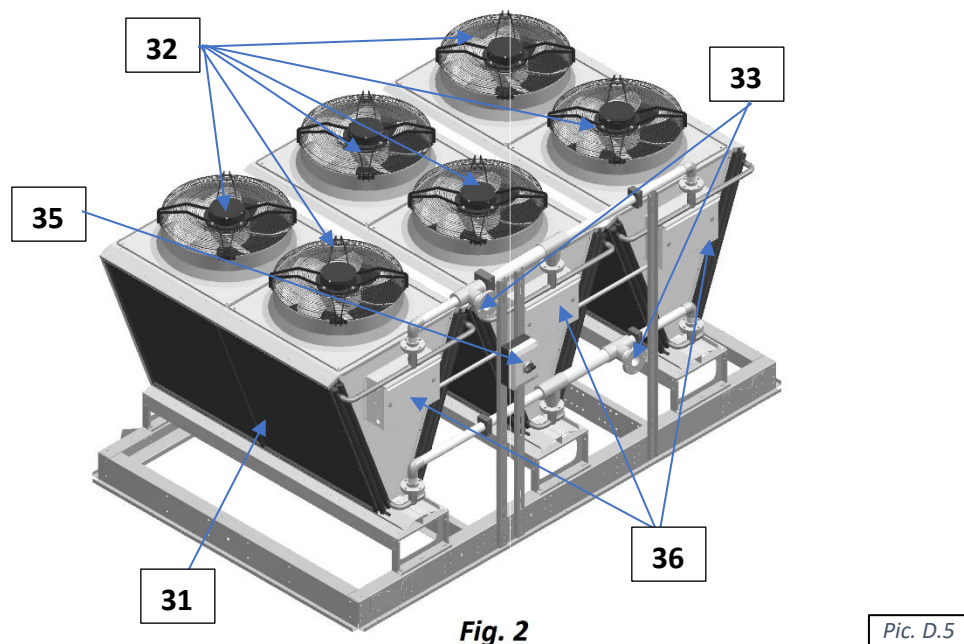

Fig. 2
The general layout of AC options is shown on Pic.D.5 below with the outdoor fluid and *NG-V-32* (Fig.2) has been displayed as an example. While layout and main components are similar for all applicable AC options, there are some deviations (number of fans, composition, etc.). Refer to **AC Options Basic View (Basic Information chapter)** for additional information.
- Cooling (AC) **coils** (31) (where heat from glycol mixture is rejected to the ambient air) is mounted onto metal frame, upstream (before) the **fans** (32), that pulls the air through the coils to absorb the heat.
- Normally, fluid cooler would have multiple coils and fans. Cooler NG-V-32 (Fig.2), comprised of six coils, mounted on the angle to each other, and six fans, with two fans and two coils presenting a single block. Depending on the capacity, cooler could be comprised of up to six such single blocks, stacked side by side on the same frame and manifolded together.
- Cooler **piping connections** (33) are identified respectively (IN – OUT);
- Electric power is brought to **disconnect** (35) which feeds it to the **electrical box** (36), that contains cooler power and control apparatuses.